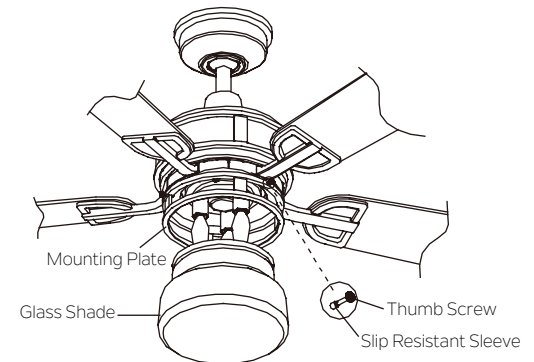

Fig. 26
Step 2. Place the slip resistant sleeve on the end of the thumb screw with knurled head. Lift the glass shade allowing it against the mounting plate and securely tighten with the 3 thumb screws only by hand to avoid damaging glass. Do not overtighten the screws.(Fig.26)